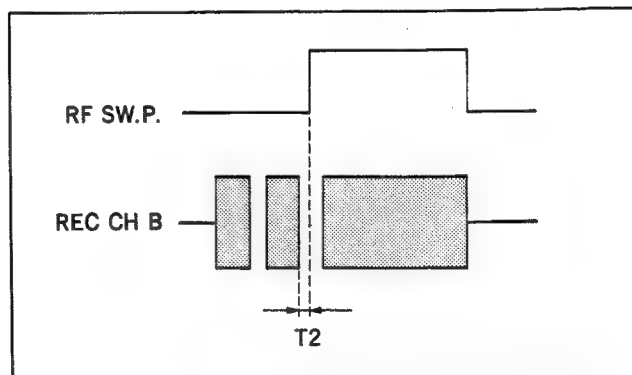

Fig. 6-10-5 Switching position check (REC B) ②
4. Use the REC head PB harness in the same manner as section 6-9, item 1.
6. Check the error T1 of the wave shape indicated in the figure to satisfy specifications 2 (Fig. 6-10-5).
- 1. If specifications 2 is not satisfied in the check of section 6-10-3, perform the following adjustment. (See Fig. 6-10-5.)